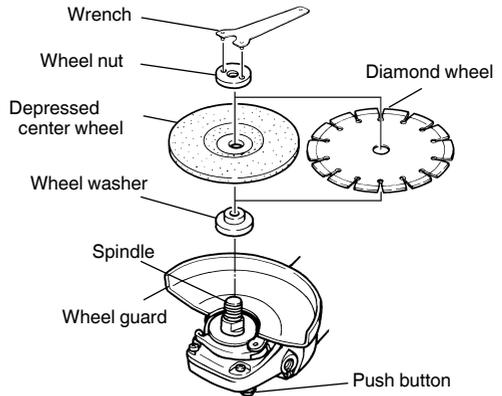

Fig. 3
Confirm that the push button is disengaged by pushing push button two or three times before switching the power tool on (See Fig. 3).
ASSEMBLING AND DISASSEMBLING THE DEPRESSED CENTER WHEEL (Fig. 3)
1. Assembling (Fig. 3)
- (1) Turn the disc grinder upsidedown so that the spindle is facing upward.
- (2) Align the across flats of the wheel washer with the notched part of the spindle, then attach them.
- (3) Fit the protuberance of the depressed center wheel onto the wheel washer.
- (4) Screw the wheel nut onto the spindle.
- (5) While pushing the push button with one hand, lock the spindle by turning the depressed center wheel slowly with the other hand.
- Tighten the wheel nut by using the supplied wrench as shown in Fig. 3.